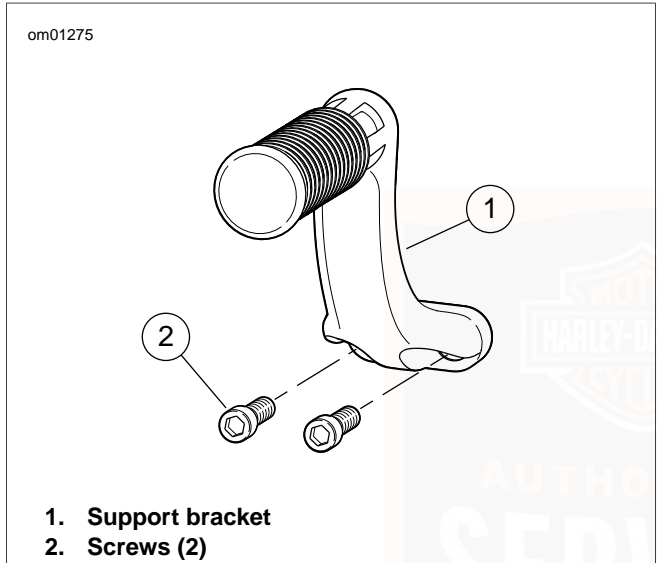

Figure 38. Mid-Mount Rider Footrest Assembly: XL Models
4. See Figure 38. For XL models equipped with mid-mount foot controls, remove screws and detach the rider footrest support bracket from the left side of the vehicle.
8. See Figure 38. For XL models equipped with mid-mount foot controls, remove screws and detach the rider footrest support bracket from the left side of the vehicle.